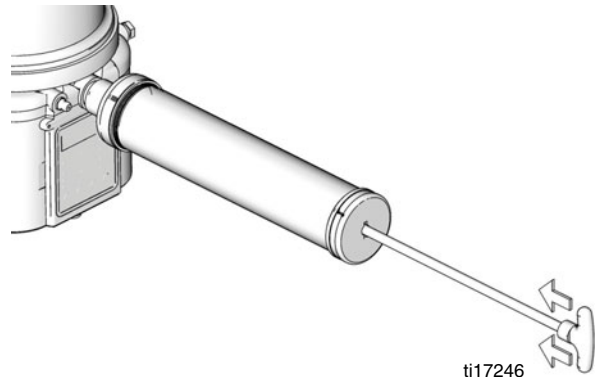

FIG. 5
6. Push down on gun plunger until all grease in grease tube is dispensed into the G3 pump and tube is completely empty (FIG. 5).